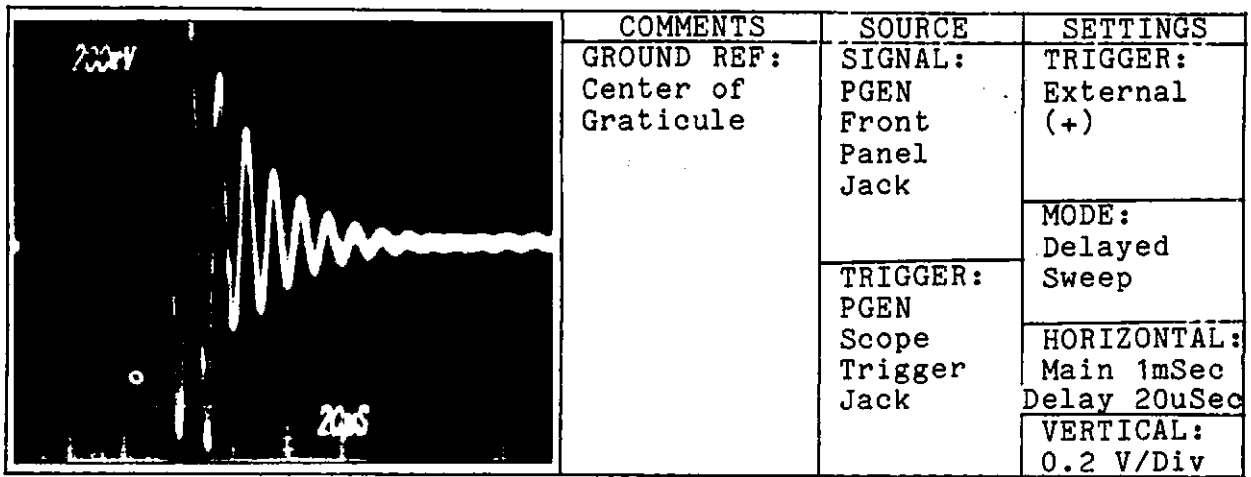

Figure 2.37. Transmitter Drive Waveform with Tail Drive
b. Adjust the 8th/16th PGEN thumbwheel switch so that the first 1/2 cycle of tail drive does not exceed the level of the last 1/2 cycle of normal drive. (see figure 2.37).
c. Adjust R25 counter clockwise (CCW) so that the tail drive decays to zero \pm 40 millivolts at approximately 140 usec from the start of the drive waveform. (see figure 2.37).